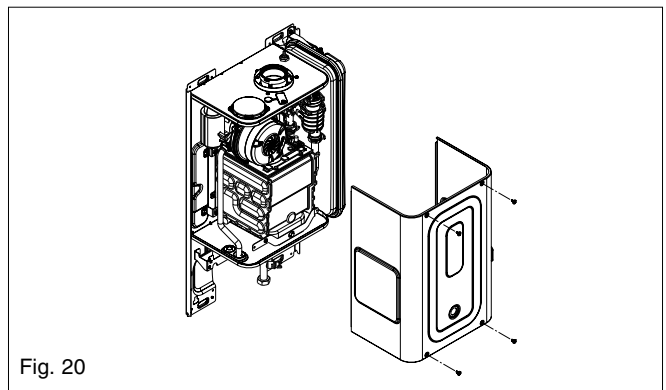

Fig. 20
6.4.1 AIR BOX FRONT COVER REMOVAL (fig. 20)